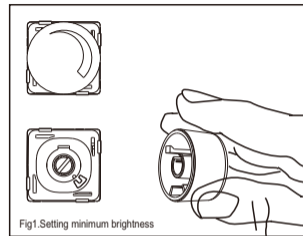

Fig1.Setting minimum brightness
- Insert the knob so that the "tongue" on the knob lines up with the slot on the dimmer[see Fig 1].